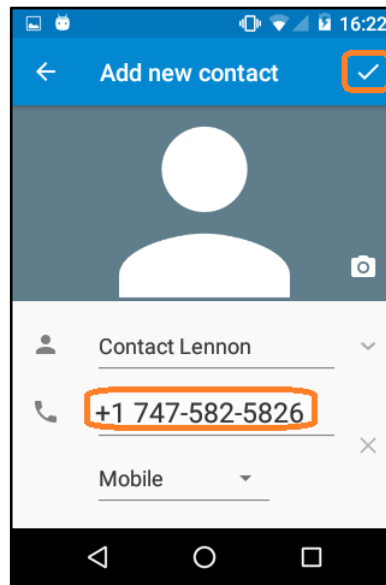
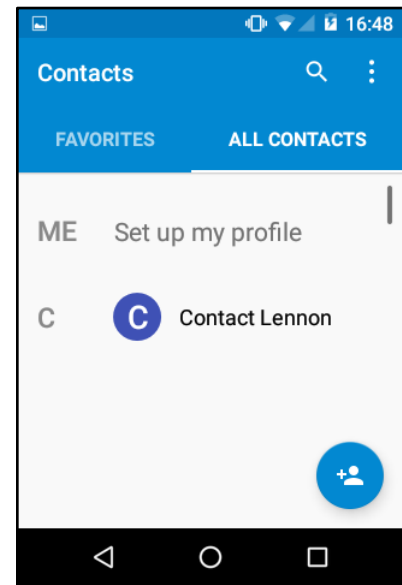

Figure 12: Contact Info
Figure 13: Contacts List
2. Press **Create a New Contact** to open the *Add new contact* screen, as shown in **Figure 12**. (If contacts already exist in the unit, tapping the *Contacts* icon will open the *Contacts* list screen.)
4. When finished entering contact information, press the check mark, as seen at the top-right of **Figure 12**, to save the contact. **Figure 13** displays the entered contact.
However, the Android Messaging App behaves just as it does in cellular devices. Messages may be sent by selecting a contact from the Android contact list, or the messaging bubble from within a contact as shown above in Figure 13 above, or the phone number may be manually entered in the 'to' line of the message using the same naming convention for phone numbers required to make phone calls, +1 (555) 555-5555 for a commercial number in the U. S. or +1 8816 XXXX YYYY for an Iridium phone device.